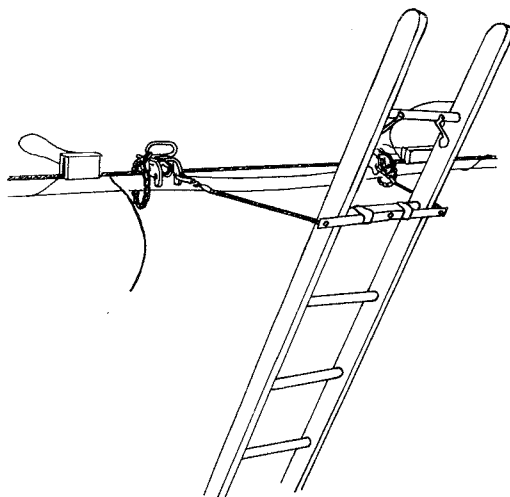

Fig. 17 — B Ladder Support In Use
6.17 Descend and pull the foot of the ladder backward until the top of the ladder falls below the strand and cable. This may also be accomplished by lowering the ladder with the ladder rope. Push the foot of the ladder forward and adjust its length or raise the ladder with the ladder rope until the ladder assumes the position shown in Fig. 17. Place the ladder so that the distance from its base to a line extended vertically from the sling assembly bar is about one-fourth of the length of the ladder, measured from its base to the sling assembly bar.